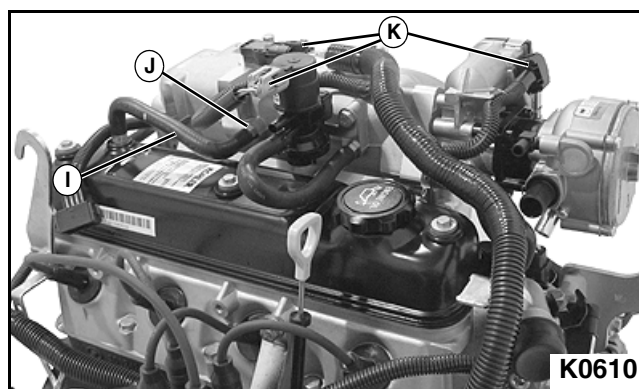

Figure 3-101
6. Connect PCV hose (I) to intake manifold port (J). **See Figure 3-101.**
7. Connect three electrical connectors (K) to intake manifold sensors.